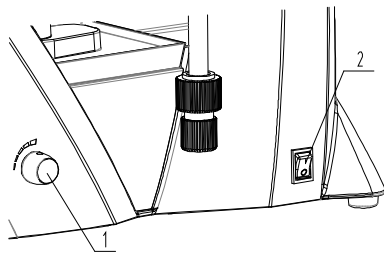

Fig. 5 Power Switch
3.1.1 Turn On Light Source (Fig. 5)
- a. Turn potentiometer knob ① to the minimum, turn on power switch to ② position I (ON).
- b. Rotating potentiometer knob ① to increase and decrease brightness for good illumination.